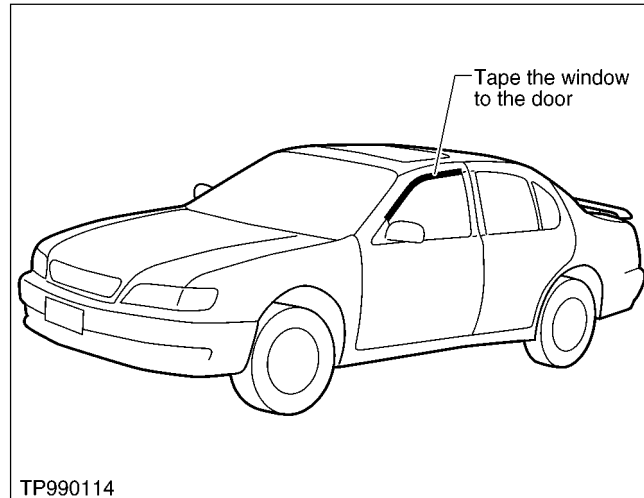

Figure 6. Upper Edge of Door
2. Apply high quality masking tape, from the door, across the run rubber, to the top edge of the door glass (see Figure 6), covering the seam in between.